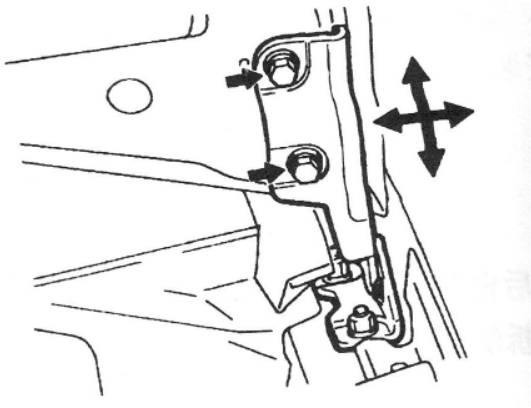

Fig.18-23
① Adjust clearance all around bonnet ASM (see figure18-23)